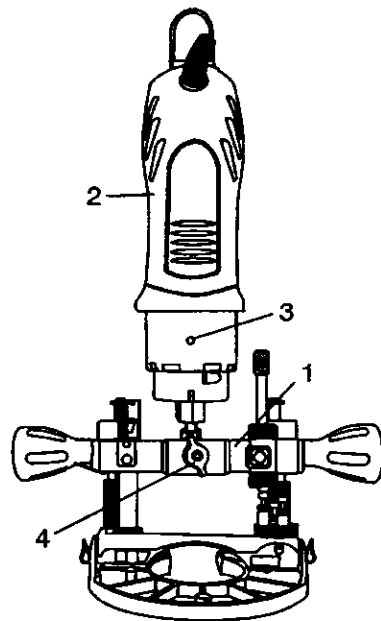

Fig. 15
- 2 Slide router accessory mounting bracket (1) onto the bottom of motor housing (2) until the mounting hole (3) lines up with the hole in the mounting bracket (see Fig 15)